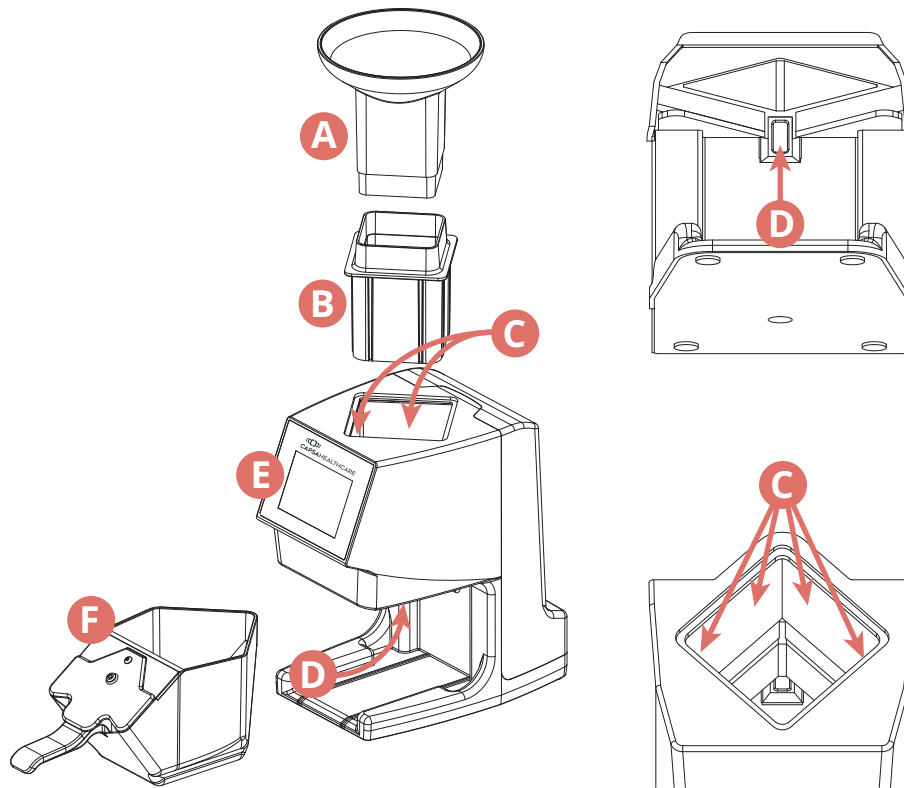

Figure 8: Elements to Clean
2. Remove the counting tray (**F** in **Figure 8**) and set it aside.
- a. Remove the funnel (**A** in **Figure 8**).
- a. Remove the channel (**B** in **Figure 8**) from the KL1v body.
- a. Spray the tray (**F** in **Figure 8**) inside and out with mild, soapy water.
- a. Dampen a cloth with mild, soapy water and clean the sensor window (**D** in **Figure 8**).
- b. Wipe the screen (**E** in **Figure 8**) side to side or up and down. Don't use a circular motion.